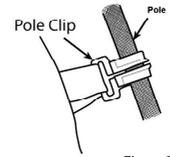

Figure 6
12. Between the ends of the pole sleeves and the eyelets in the webbing there are pole clips, these should now be attached to the poles (see figure 6).